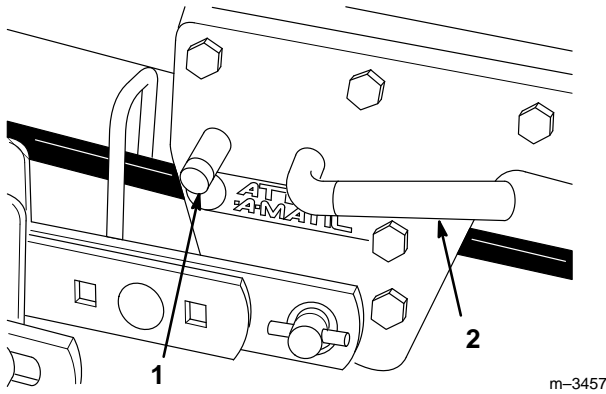

Figure 20
9. Press the button of the mid Attach-A-Matic™ and twist the lever counterclockwise to release the mower (Fig. 20).